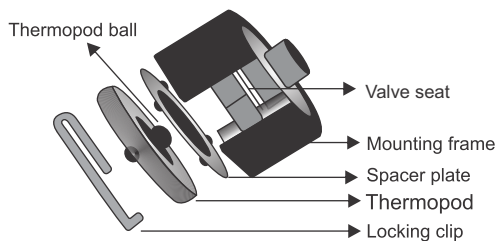

Figure 7: Maintaining the Air Vent assembly
7.5 Inspection and maintenance of air vent assembly : (Refer to Figure 7)